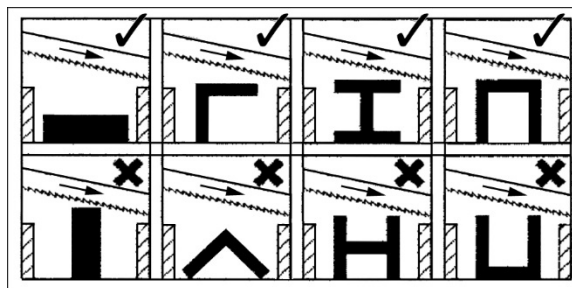

Figure 9-1: Clamping Positions
- 3) Position workpiece in vise and tighten vise. Workpiece should be fitted directly between the jaws without adding other objects. When work piece is profiled section, flat piece or special shape, refer to examples in Figure 9-1 for proper clamping positions. The top row shows acceptable clamping positions; the bottom row show unacceptable positions.